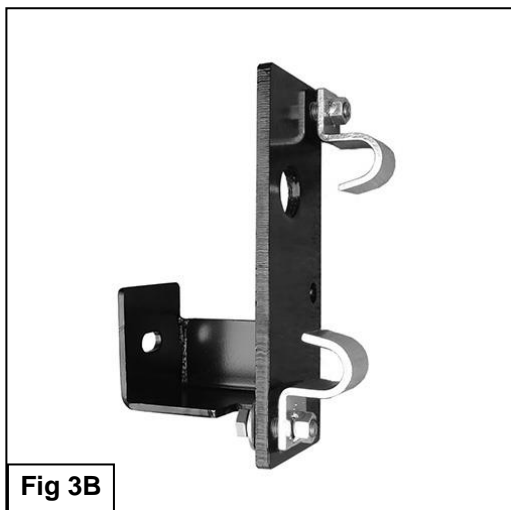

Fig 3B
- Select (1) Hook Plate. Hook the Hook Plate over the bottom edge of the frame, **(Figure 2B)**. Repeat **Step 4** to attach the bottom of the rear Bracket to the Hook Plate, **(Figures 3B & 4)**. **NOTE:** Make sure the clearance holes in the rear Mounting Bracket are lined up with the factory fasteners in the frame. **IMPORTANT!** Adjust the location of the bottom Hook Plate away from the emergency brake cable. Do not tighten hardware at this time.